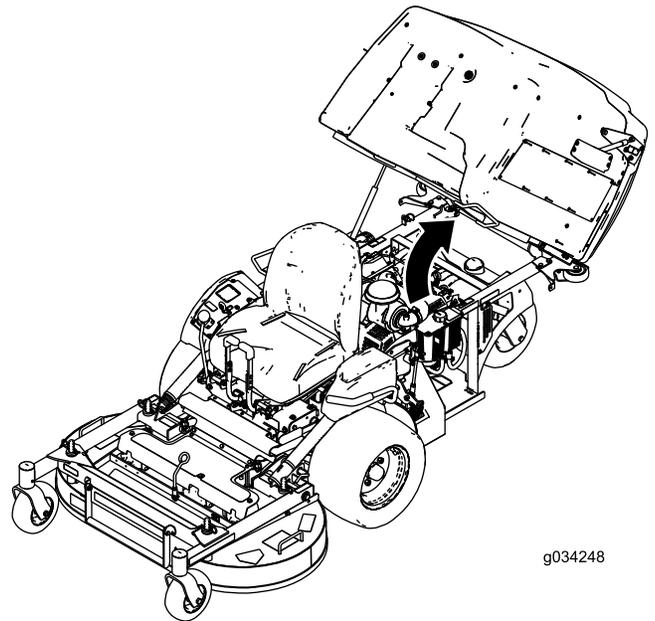

Figure 29
1. Raise up the hopper (Figure 29).